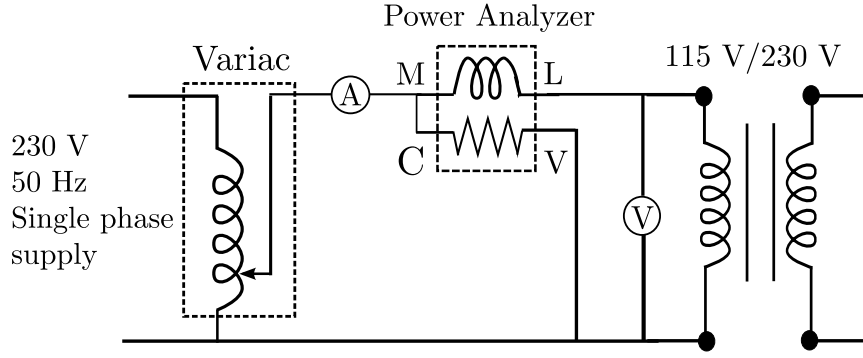

Figure 3: Connection diagram for OC test of a transformer
The shunt branch parameters are determined by performing this test. Since, the core loss and the magnetizing current depend on applied voltage only and are practically unaltered by the load current (why?). Hence to get these parameters, rated voltage is applied to one of the windings keeping the other winding open (generally HV winding is kept open and rated voltage is applied to LV winding - why?). The circuit diagram to conduct this test is shown in Fig. 3. The secondary terminals are open
1. Connect the circuit as shown in Fig. 3